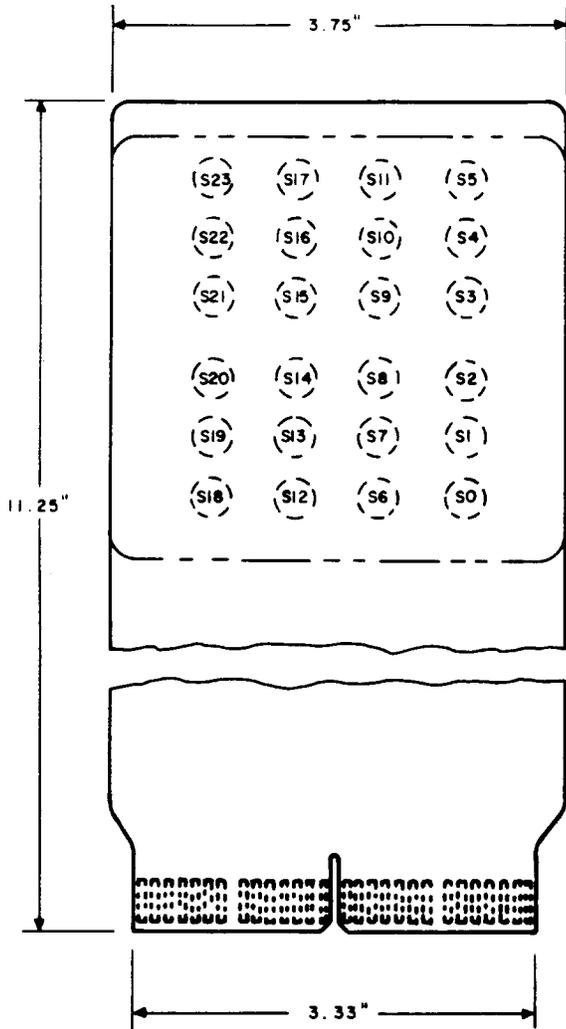

Fig. 2—786A Tester Tool
**2.07 786A:** The 786A tester tool (Fig. 2) is used in the 2-wire 1ESS switch central control buffer bus location 23 (BB23). The tool has toggle switches which can be set to multibit codes indicating specific actions to be taken under program control.